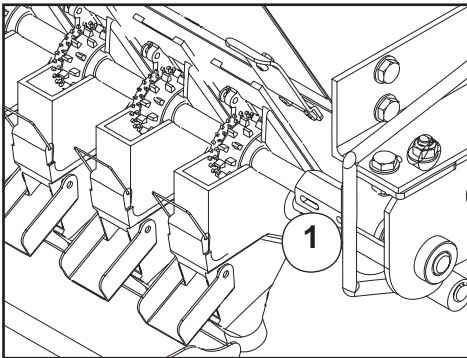

Fig 18
The fine seed metering wheel used in Duncan Drills is especially well suited for sowing small seeds such as rape. Due to the intensive action caused by the agitator the seeds can adhere to each other, or be damaged, causing irregular sowing/germination. **Therefore it is recommended that when sowing small seeds, especially oil seeds and thin shelled seeds, the drive to the agitator is disconnected.** To do this remove the lynch pin or bolt. (1) (Fig 18).